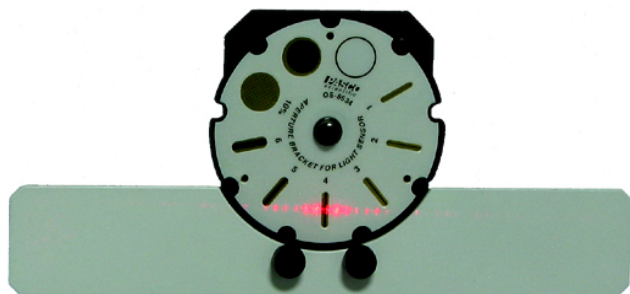

Figure 6: Aligning the Light Sensor Vertically
4. Move the Light Sensor up or down until the light pattern is centered on the slits shown in Figure 6. Use slit #6.